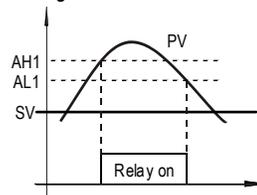
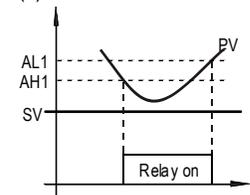

Figure 6. Absolute high alarm
Figure 7. Absolute low alarm
b. Press **SET** key once. Use **⊖**, **⊕** and **⊙** keys to enter code 0001. Press **SET** key to confirm, then the display would be SV (SV). Press **SET** key again to display the SV setting. Use **⊖**, **⊕** and **⊙** keys to enter the new SV value and press **SET** to confirm. Press **⊙** key to change the display to END. Then, press **SET** to exit. You can also ignore the steps after confirmation of SV. The controller will return to normal operation mode automatically if no key is pressed for 1 minute. The flow chart below shows how to set the SV and alarm in details.
**Note 13.** Alarm setting. When the SSR is used as the control output, the J1 relay can be used as an alarm (when outy is set to 0, 2 or 3). The alarm is controlled by parameters AH1/AL1 or AH2/AL2. AH1/AH2 is the temperature to turn the relay on; AL1/AL2 is the temperature to turn the relay off. When AH1(2) > AL1(2), the alarm is set for absolute high alarm as shown in Figure 6 below. When AH1(2) < AL1(2), the alarm is set for absolute low alarm as shown in Figure 7 below. When AH1(2)=AL1(2), the alarm is deactivated.